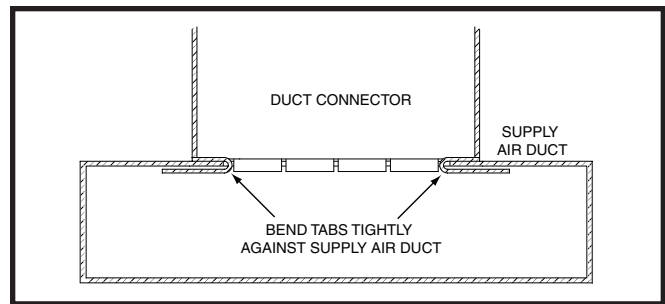

Figure 8. Duct Connector Tabs
7. Bend the connector tabs on the bottom of the duct connector upwards and as tight as possible against the supply air duct. See Figure 8.